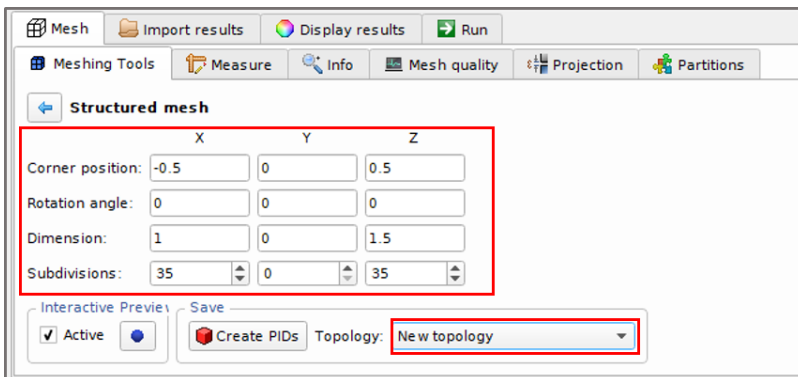

Figure 6.25: Create the first plane of field mesh
- In the Toolbox → Mesh → Meshing Tools → Structured Mesh, create the first plane of field mesh (Figure 6.25);